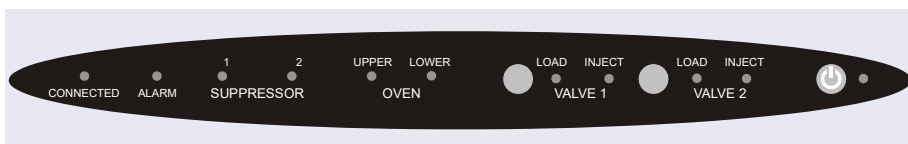

Figure 2-16. DC Status Bar
The status bar on the front of the Dionex ICS-6000 Detector/Chromatography Module (DC) (see Figure 2-16) includes buttons for controlling certain DC functions, as well as LEDs that indicate the status of several DC components and functions.